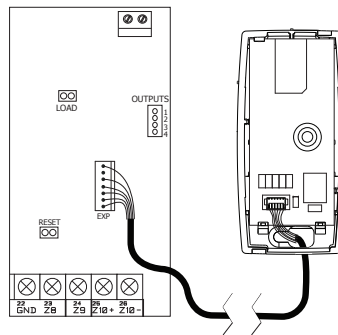

Figure 2: 763 to an XT30/XT50 Series Panel
4. Route the other end of the cable through the 763 cut-out then through the panel enclosure box, and connect it to the EXP header on the panel. See Figures 2 and 3.